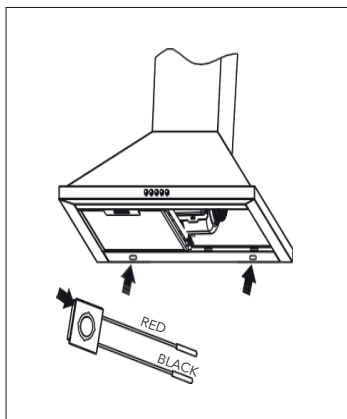

Figure 9
- Remove the non-working LED lamp as shown in the picture. (See Figure 9)